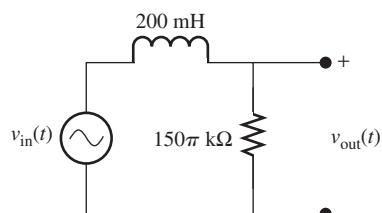

FIGURE P7.2 Circuit for Problem 7.2.
- 7.2 (B) Find the transfer function for the filter of Figure P7.2.